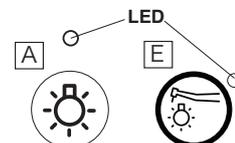

Fig.3-6 Light Pack Switch
④ The Light Pack Switch (Optional)(Fig.3-6) [A] [E]